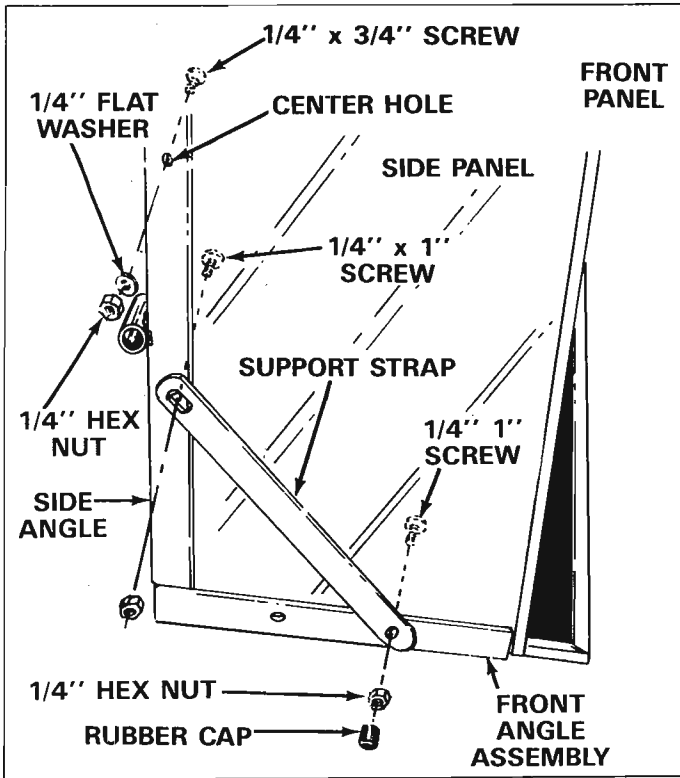

FIGURE 6
- Place one side panel in position, against side angle and down on top of front panel. Start one 1/4" x 3/4" truss head screw through the center hole in side panel and side angle. Secure with hex nut and flat washer. See figure 6. **Make only finger tight at this time.**
- Start one 1/4" x 1" truss head screw through front hole on side panel and side angle. Start another 1/4" x 1" truss head screw through top hole on side panel and front angle assembly, next place support strap over these two screws, secure with hex nuts and cover threads of top screw with a rubber cap. See figure 6. **Make only finger tight at this time.**